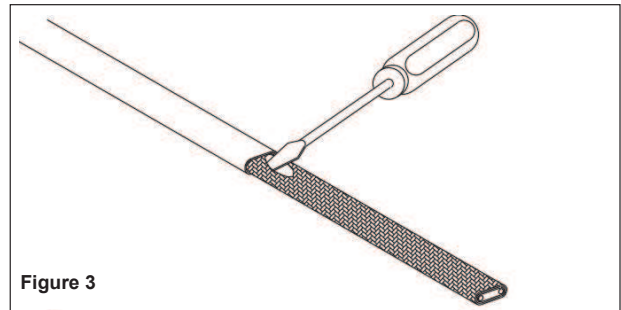

Figure 3
3. Move braid back to create a bulge approximately 7 inches from the end. At the bulge, separate the braid to make an opening (Figure 3).